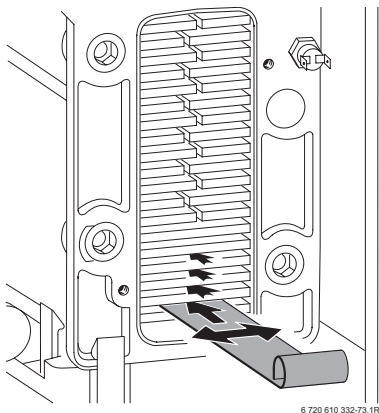

Fig. 52
- ▶ Loosen any deposits in the heat exchanger from top to bottom using the cleaning blade. Refer to fig. 52.